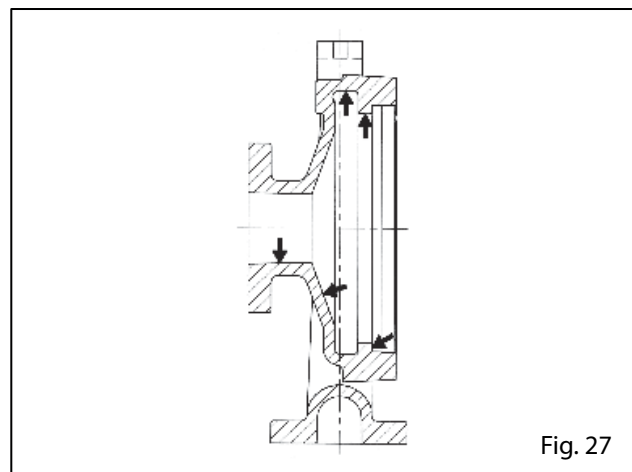

Fig. 27
- Y You should inspect the inside of the body and the gasket body surface, if you have slots than 1/8" it should be repaired or replaced (see Figure 27).